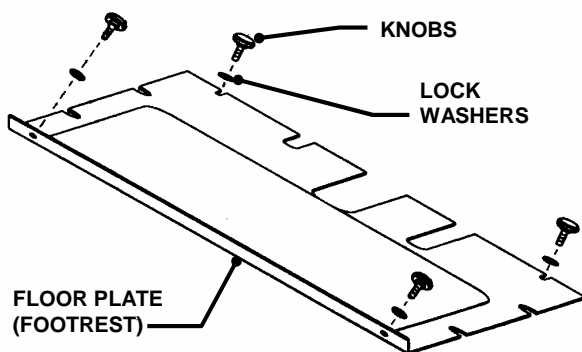

FIGURE 3.3
- Remove footrest. See Figure 3.3.